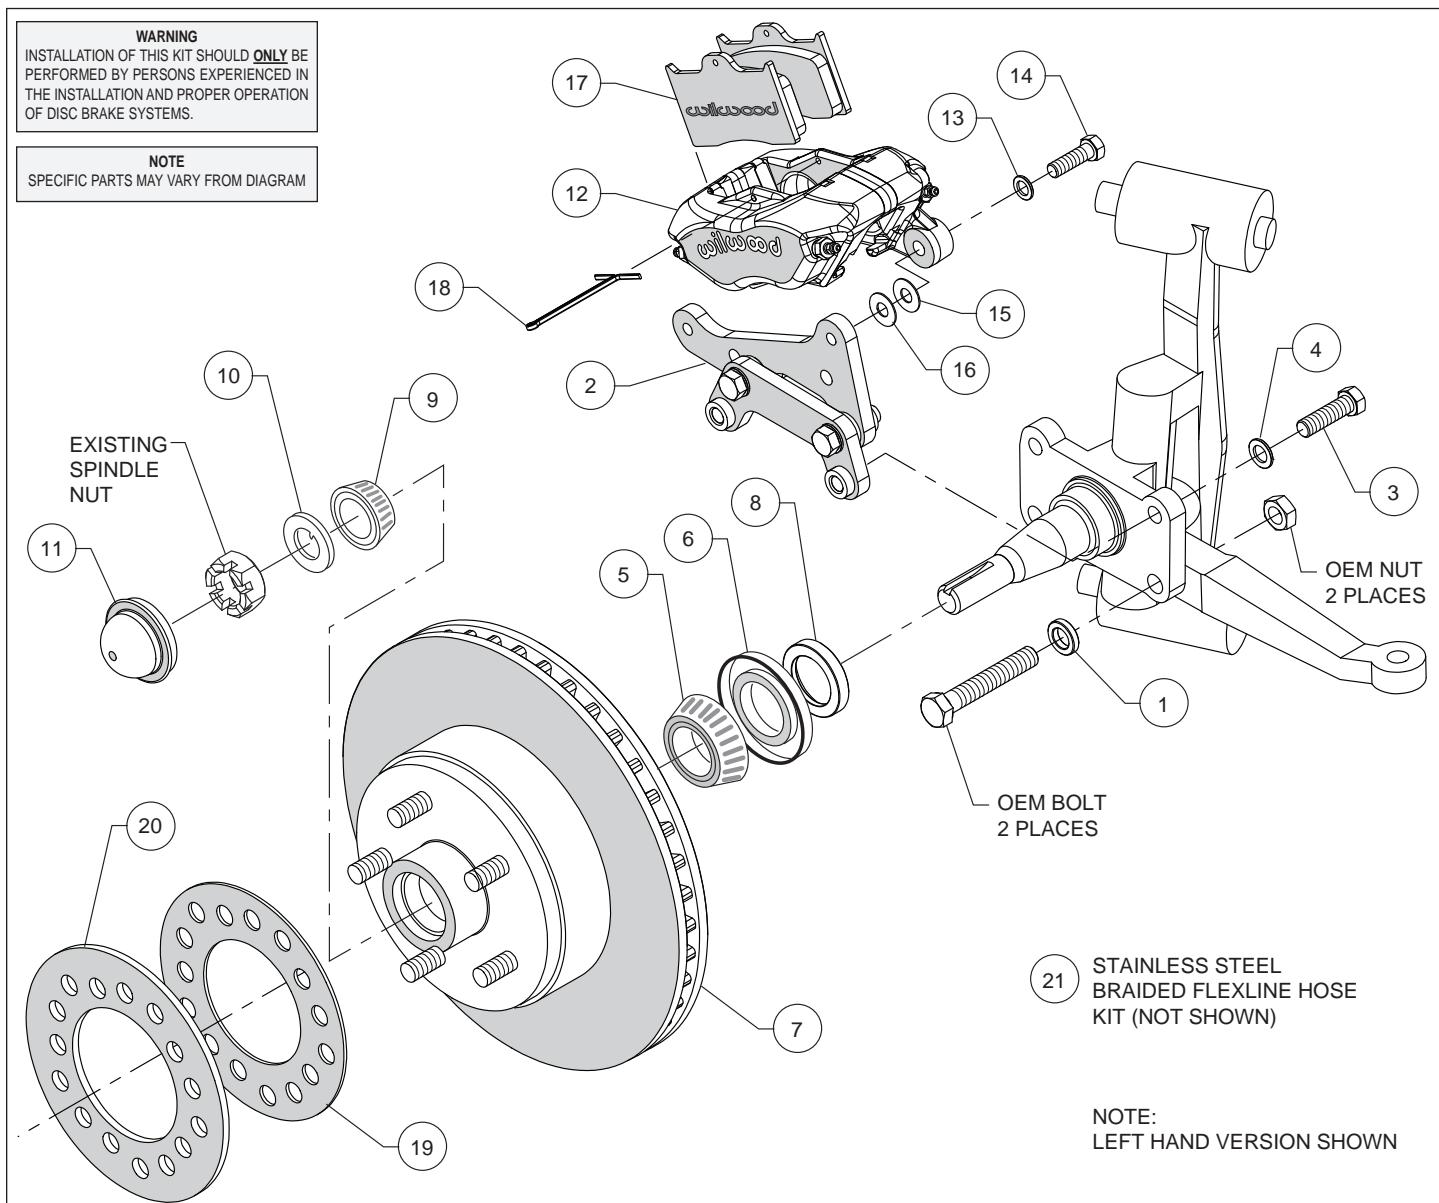
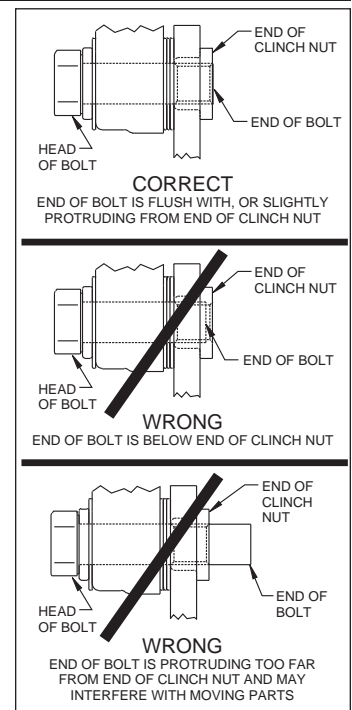

Figure 1. Typical Installation Configuration
Figure 3. Clinch Nut Engagement Diagram
Assembly Instructions (numbers in parenthesis refer to the parts list, on the preceding page and Figure 1): **CAUTION:** All mounting bolts must fully engage clinch nuts. Be sure to check that all bolts are either flush or protruding through flanged side of clinch nut after shimming, Figure 3.
- One at a time, remove the two lower OEM bolts that secure the steering arm from the back side of the spindle. Place spacer (1) on each bolt on the outboard side of spindle face and reinstall using OEM nut as shown in Figure 1 and Photo 1. Torque nut to manufacturer's specifications.
- Orient the caliper mount bracket (2) as shown in Figure 1 and Photo 2, and install using bolts (3) and washers (4). Ensure that the flanged heads of the clinch nuts in the bracket are facing outboard, Photo 2. Temporarily tighten the mounting bolts. **NOTE:** The bracket must fit squarely against the mount bosses on the upright. Inspect for interference from casting irregularities, machining ridges, burrs, etc. Remove bolts one at a time, apply red *Loctite*® 271 to the threads and torque to 60 ft-lb.
- Pack the large inner bearing cone (5) with high temperature disc brake bearing grease (available from your local auto parts store) and install into the backside of the hub (7), Photo 3.
- Press the dust cap (11) into the hub (7).
- NOTE:** Please reference the caution statement at the beginning of the assembly instructions. Mount the caliper (12) onto the caliper mounting bracket (2) using bolts (14) and washers (13), as shown in Figure 1. Initially place one .035" thick shim (15) and one .016" thick shim (16) on each bolt between the caliper and the bracket, Photo 6. Temporarily tighten the mounting bolts and view the rotor (7) through the top opening of the caliper. The rotor should be centered in the caliper, Photo 7. If not, adjust by adding or subtracting shims (15 and/or 16) between the bracket and the caliper. Always use the same amount of shims on each of the two mounting bolts. **NOTE:** The end of each bolt must be flush with or slightly protruding from the head of the clinch nut, as shown in Figure 3. If necessary place spare shims between washer (13) and caliper mounting ear to achieve the proper clinch nut engagement. Once the caliper alignment and clinch nut engagement are correct, remove the bolts one at a time, apply red *Loctite*® 271 to bolt threads, and torque to 35 ft-lb.